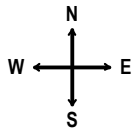

FIGURE 1 BORING LOCATION PLAN
Hancock Bridge Parkway on the west side of Moody Road. The boring locations are shown on the attached **Boring Location Plan (Figure 1)**.
The locations of the borings are shown on the attached **Boring Location Plan (Figure 1)**. They were located by reference to the project Geotechnical Survey Map Provided by **Greeley and Hansen, LLC** and by measurement from the site features shown on an aerial photograph of the site obtained from Google Earth Pro©. Therefore, the locations indicated should be considered accurate only to the degree implied by the method of measurement used. If a more precise location of the borings is desired, then we recommend that a registered land surveyor be employed to locate the borings on site. GPS coordinates of each boring location are provided on the boring logs.
- **BORING LOCATION PLAN (FIGURE 1)**